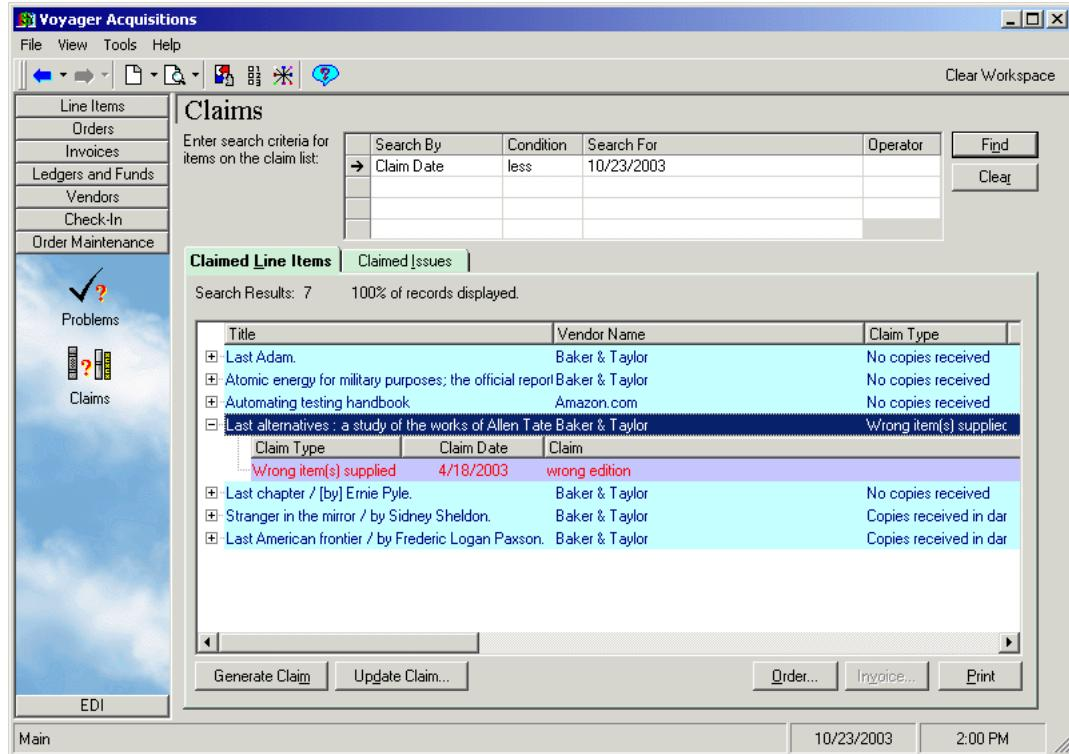

Figure 2-58. Claims work space search results
8. To process an item, select it and click the wanted action button (see Figure 2-58). See Claims work space on page 11-21.